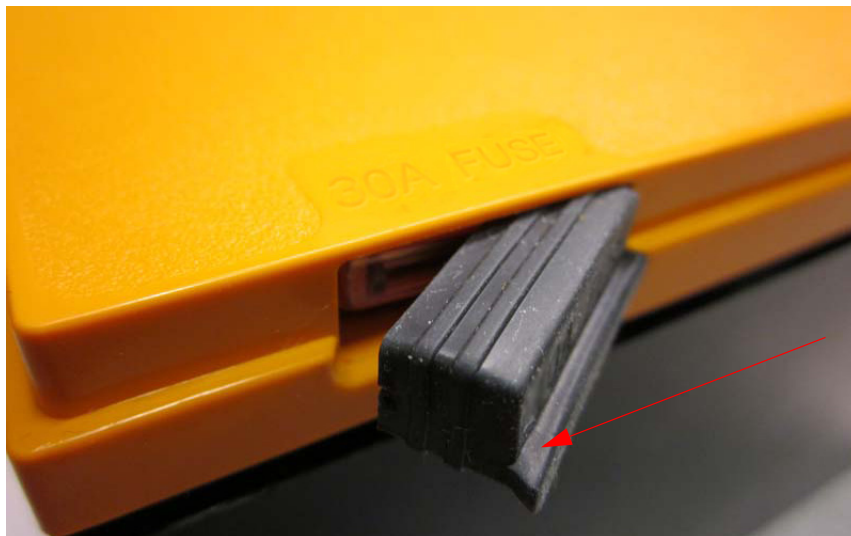

Figure 4-5 Removing the Fuse Plug
1. Hold the fuse plug at the lower lip (indicated in Figure 4-5), then remove it.